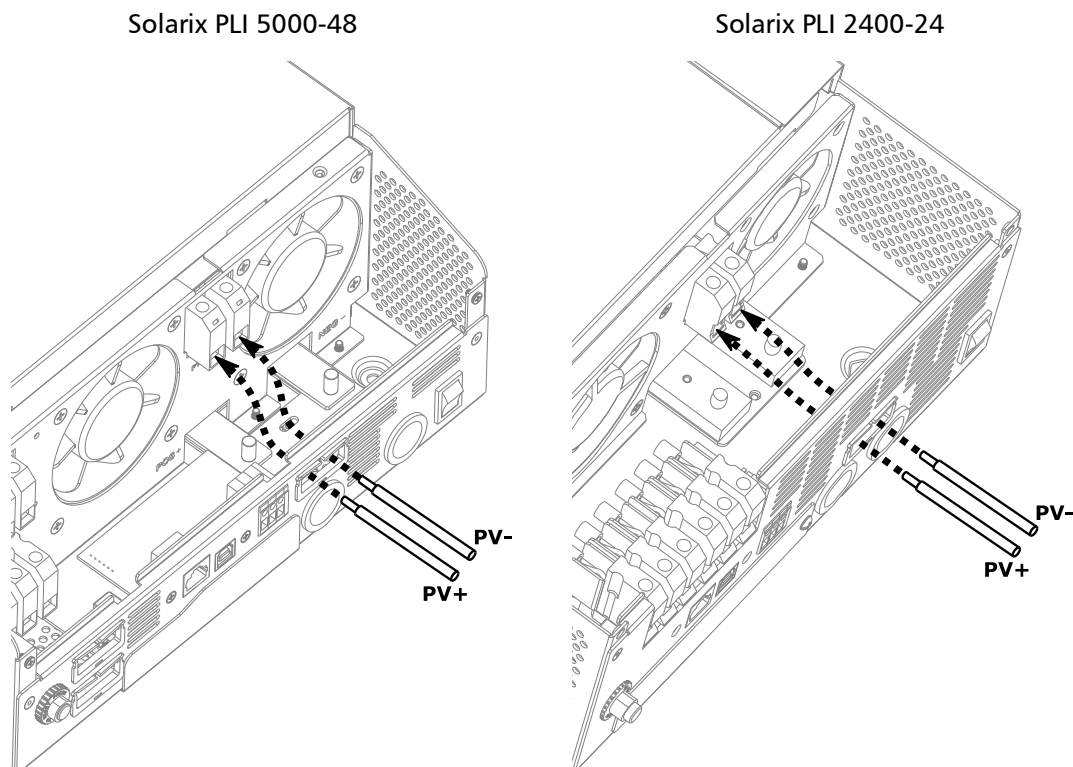

Figure 9: PV array cable connection
4. Connect the positive and negative cables from the PV array to the respective PV terminals on the inverter (*Figure 9*). Tighten the terminal clamps with a torque of 1.4 - 1.6 Nm